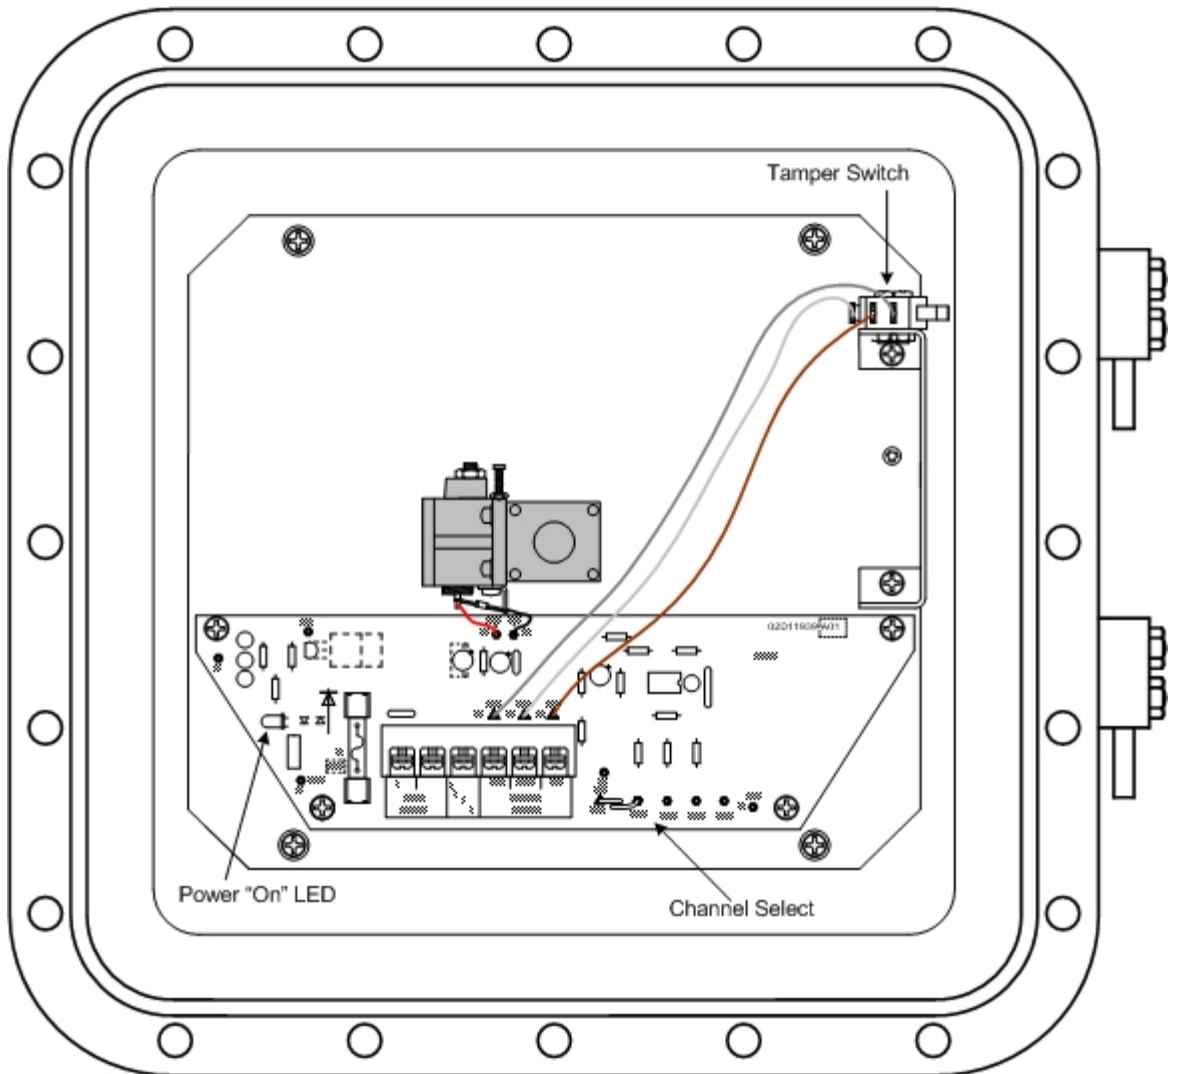
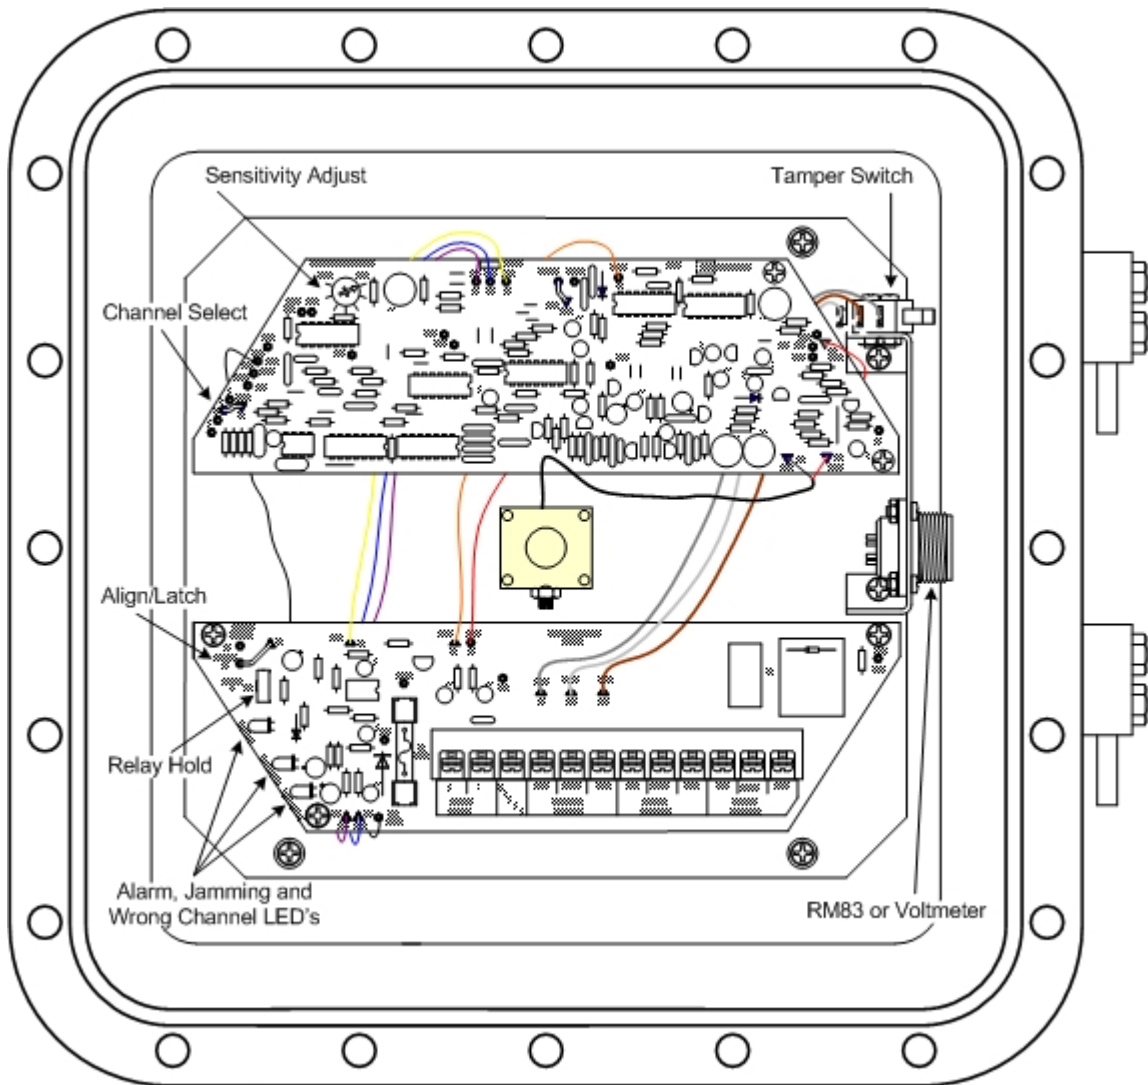

Figure 17 – Model 310B-33456T Transmitter
Figure 18 – Model 310B-33456R Receiver
2. Attach the white PCB jumper wire, E10, to one of the appropriate pins (A, B, C or D) to select the desired operating channel as shown in Figure 17.
4. Attach the white PCB jumper wire, E9, to the appropriate pin (A, B, C, or D) at the Receiver that matches the same channel as the 310B-33456 Transmitter as shown in Figure 18.
Figure 17 shows the location for the channel selection with jumper E10 to one of the channels (A, B, C, and D). It also shows where the power “On” LED and Tamper Switch are located.
Figure 18 shows the location for the channel selection with jumper E9 to one of the channels (A, B, C, and D). It also shows where the “Sensitivity” adjustment potentiometer, “Align/Latch” jumper E1, “Relay Hold” adjustment potentiometer, Tamper Switch, “Alarm” LED, “Wrong Channel” LED, “Jamming” LED and “RM83/Voltmeter” test plug are located.
3. Check for Transmitter operation by monitoring the Power “ON” LED on the Transmitter Circuit Board. (See Figure 17).
4. Close cover on Transmitter and secure with two (2) bolts.
6. Open front cover of Receiver and move the Align/Latch – Normal jumper (E1) to Latch position. (See Figure 18). Close cover and secure with two (2) bolts.
7. On Receiver, connect VOM to Pin C (Positive Meter Lead), and Pin D GND (Negative Meter Lead), with meter range set to 3-5VDC. (See Figure 18).